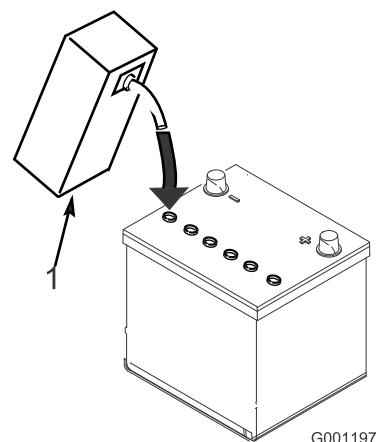

Figure 4
4. Allow approximately 20 to 30 minutes for the electrolyte to soak into the plates. Fill as necessary to bring the electrolyte to within about 6 mm (1/4 inch) of the bottom of the fill well (Figure 4).
3. Carefully fill each cell with electrolyte until the plates are covered with about 6 mm (1/4 inch) of fluid (Figure 4).